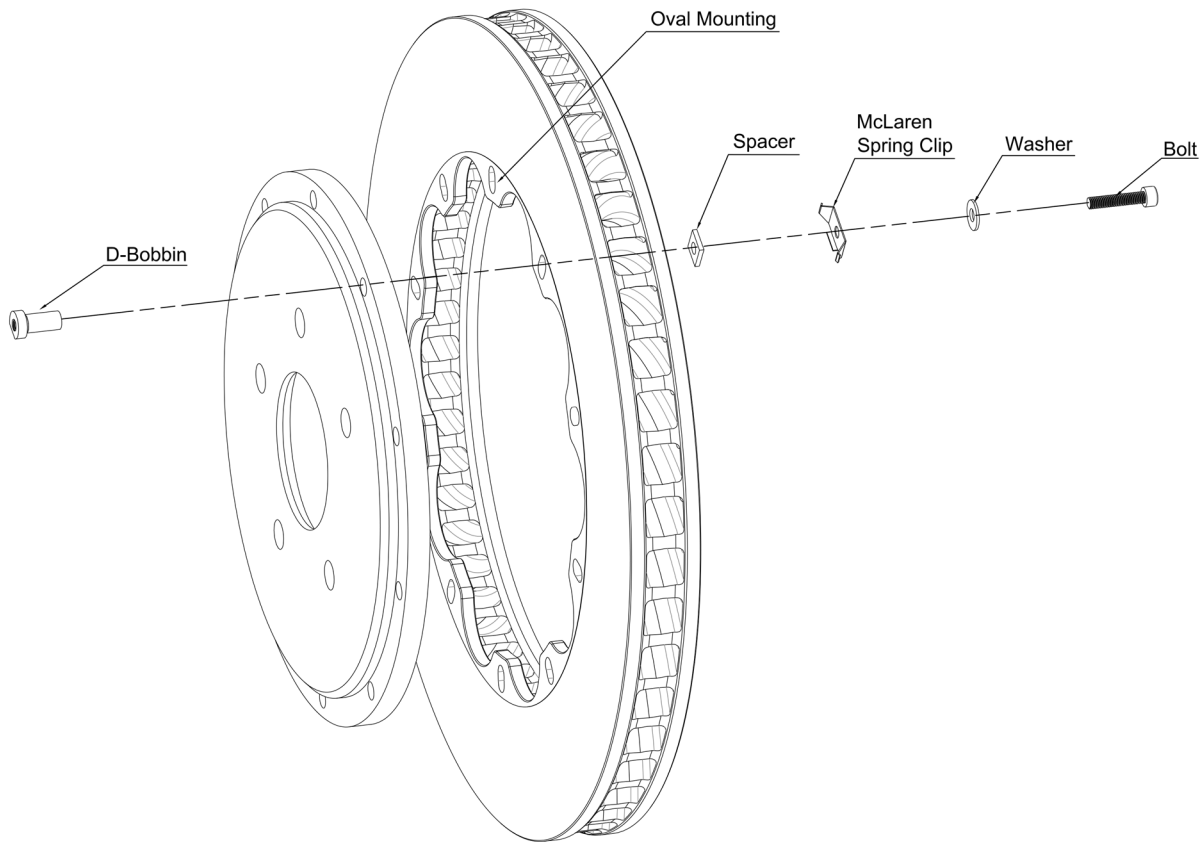

Fig. 1
Step 6: Install hardware in the sequence as shown in Fig. 1 from the inside of the rotor, through the aluminum hat, into the D-bobbins. Loosely assemble the bolts (hand-tight).